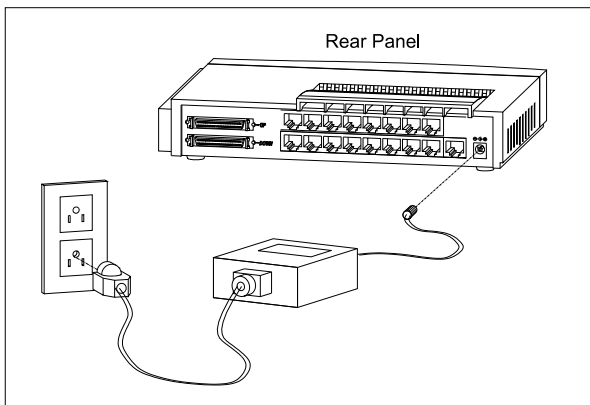

Figure 2-4 Connect to the power cord to wall outlet
2.1.4 Once the hub is connected to the power adapter, please connect the power adapter to a power cord, as shown in Figure 2-4.